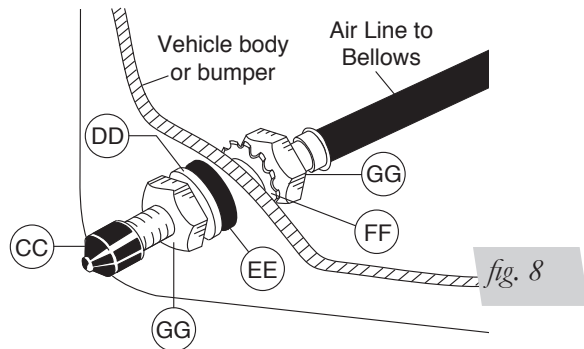

fig. 8
3. Place a $\frac{5}{16}$ " nut (GG) and a star washer (FF) on the air valve. Leave enough of the inflation valve in front of the nut to extend through the hole and to have room for the rubber washer (EE), flat washer (DD), and $\frac{5}{16}$ " nut (GG) and cap (CC). There should be enough valve exposed after installation - approximately $\frac{1}{2}$ " - to easily apply a pressure gauge or an air chuck (Figure 8).
4. Push the inflation valve through the hole and use the rubber washer (EE), flat washer (DD), and another $\frac{5}{16}$ " nut (GG) to secure it in place. Tighten the nuts to secure the assembly in place (Figure 8).